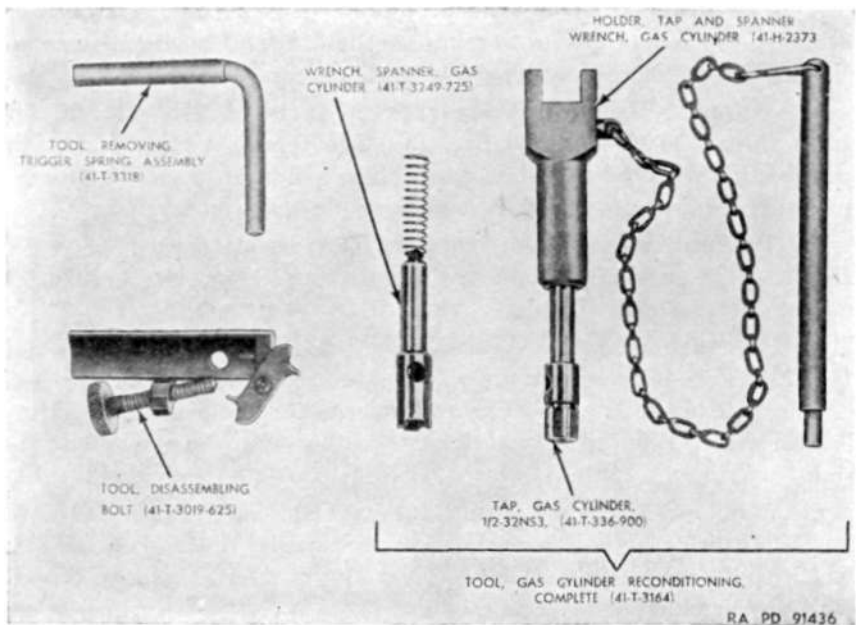
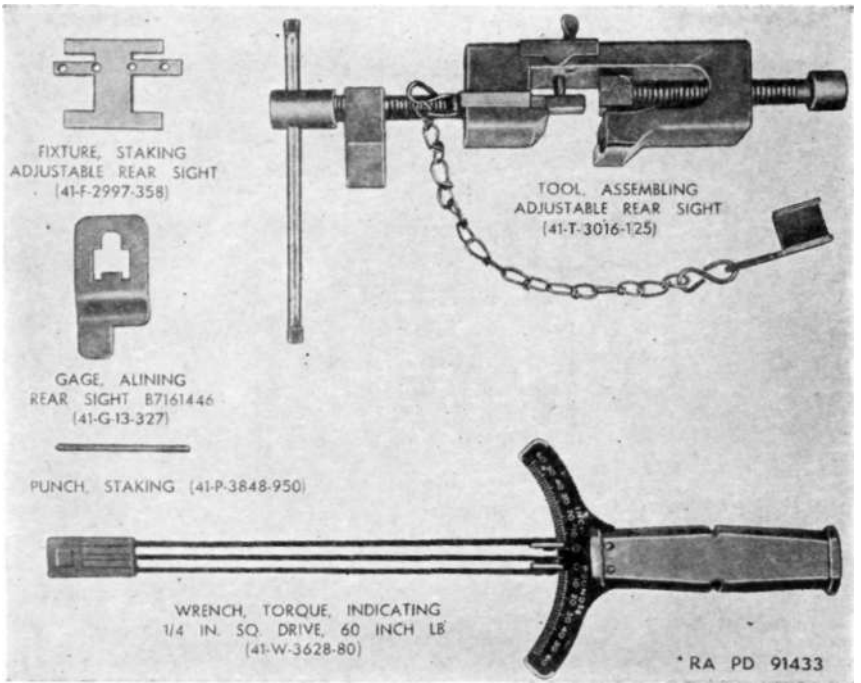

Figure 11. Special tools.
Figure 13. Tools for installing adjustable rear sight.
a. TOOL, DISASSEMBLING, BOLT 41-T-3019-625 (fig. 11). This tool consists of a concave body to receive the bolt. A thumb screw set at an angle applies pressure when tightened, to the right locking lug of the bolt. A small stud on the inside forward end of the tool bears against the ejector, and a pivoted pawl, for depressing the ejector plunger, is on the upper forward portion of the tool.
b. TOOL, REMOVING, TRIGGER SPRING, ASSEMBLY 41-T-3318 (fig. 11). This tool consists of a hollow tube 0.3135 inch diameter with a handle projecting at a 90° angle from the tube.
e. TOOL, GAS CYLINDER RECONDITIONING, COMPLETE 41-T-3164 (fig. 11). (1) The gas cylinder reconditioning tool consists of —
(2) It is used to remove and install the gas piston nut and to recondition the threads in the gas cylinder; it is composed of three main parts, a holder, a wrench, and a tap. The holder is designed to be attached to the lug on the bottom of the receiver. Drill a well in the holder to receive the shaft and spring of either the wrench or tap. The wrench and tap are operated by using a steel pin attached to the holder, which serves as a lever when inserted into the wrench or tap.
f. TOOL, ASSEMBLING, ADJUSTABLE REAR SIGHT 41-T-3016-125 (fig. 13). This tool is designed to fit over the receiver, and when properly located, utilizes a jack screw to force the sight into position. A dovetail guide and a locating pin in conjunction with a lip on the lower right-hand side of the tool assures that the tool is positioned correctly. A jack screw and connector serve to remove adjustable rear sights which cannot be installed within the prescribed pressure limits. A spacer, attached to the tool, serves to reinforce the wings of the stamped typed sight when pressure is applied by the jack screw.
g. WRENCH, TORQUE, INDICATING $\frac{1}{4}$ INCH SQUARE DRIVE, 60-INCH POUND 41-W-3628-80 (fig. 13). The torque wrench is used in conjunction with the rear sight assembling tool in order to measure the pressure required to position the adjustable rear sight.
h. PUNCH, STAKING SIZE $\frac{1}{8}$ INCH X 2 INCH, PT. 0.005 41-P-3848-950 (fig. 13). The staking punch is used for staking the receiver to hold the adjustable rear sight in place.
i. FIXTURE, STAKING, ADJUSTABLE REAR SIGHT 41-F-2997-358 (fig. 13). The staking fixture is a template used to locate the points of staking after installing an adjustable rear sight. One end of the fixture is used with the stamped type sight, the other with the machined type sight.
o. GAUGE, ALIGNING, REAR SIGHT B7161446 41-G-13-327 (fig. 13). This gauge is designed to fit over the old "L" type sight. The right rear portion of the gauge, that is parallel to the axis of the bore, is centered through the aperture, and a scribe mark made along this surface is used as an alignment mark when installing the new sight.